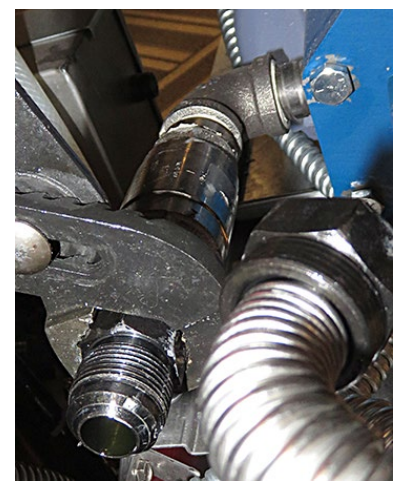

Figure 17
20. Remove the flexline adaptor and check valve from the filter pump (see Figure 17).